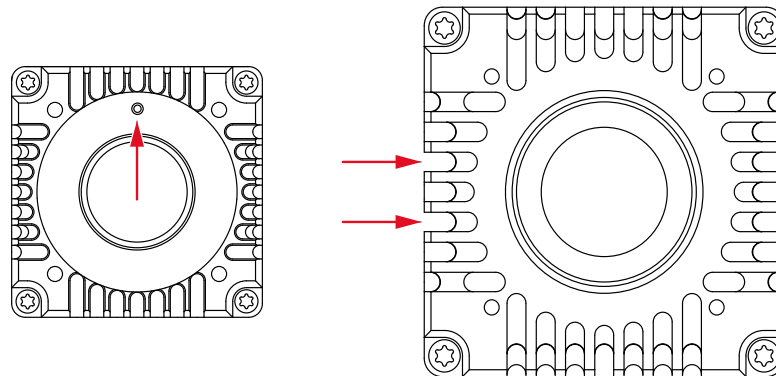

Figure 60: Position of safety screws on mount adapters: Goldeye G/CL (left) and Goldeye G/CL Cool (right)
See Figure 60 for the position of the locking screws.
- Loosen the locking screw (2, shown from back of adapter) on the outside of the mount adapter. See Figure 60 on page 215 for the position of the locking screws.
2. Unscrew the adapter (1) from the camera.